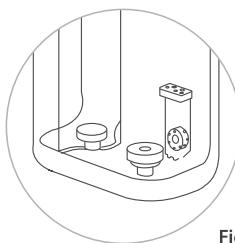

Figure 13
- (3) After cleaning, insert the floating ball into the groove. Then put on the floating ball silicone cover and filter screen covers tightly, as shown in the figure. (**Figure 13**)